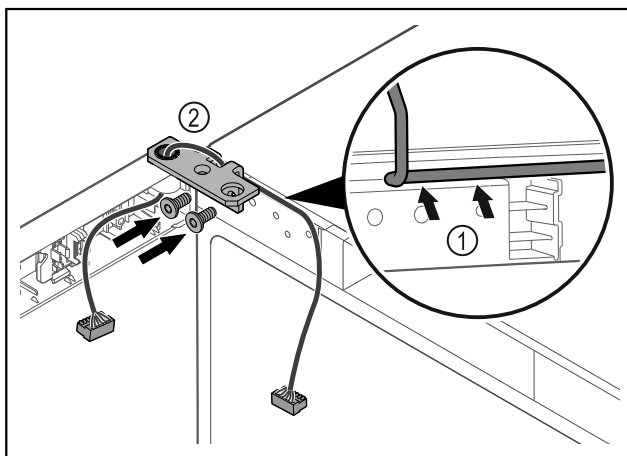

Fig. 39
- Feed the cable through the recess in the hinge and lay it carefully Fig. 39 (1).
- Screw on the hinge Fig. 39 (2).